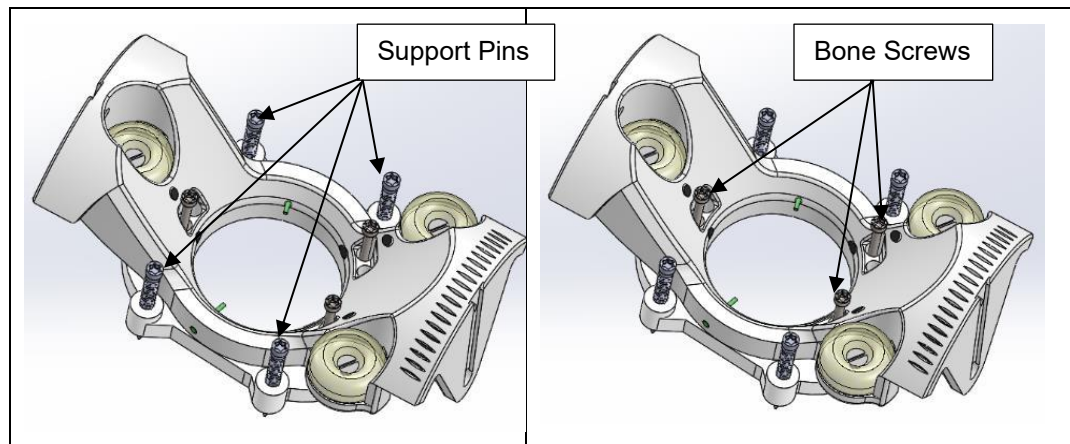

Figure 7: SMARTFrame Array Scalp Mount Base
3. The Scalp Mount Base has four adjustable height support pins and three self-tapping bone screws. **See Figure 7.**